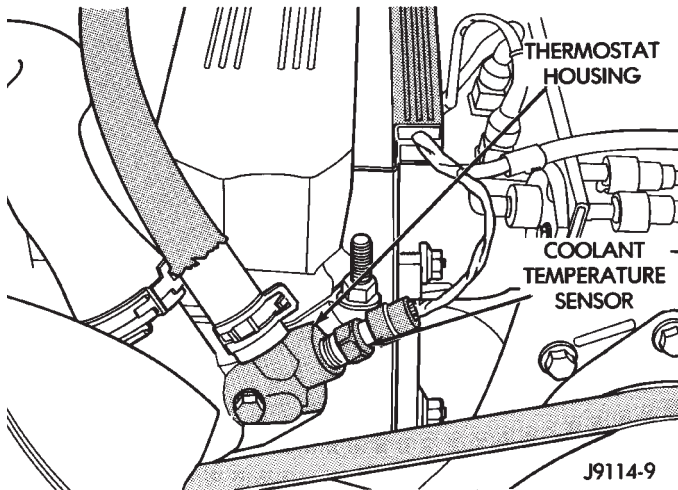

Fig. 12 Engine Coolant Temperature Sensor—Typical
(19) Verify that harness connectors are firmly connected to idle air control motor and throttle position sensor.
(20) Verify that wire harness connector is firmly connected to the engine coolant temperature sensor (Fig. 12).